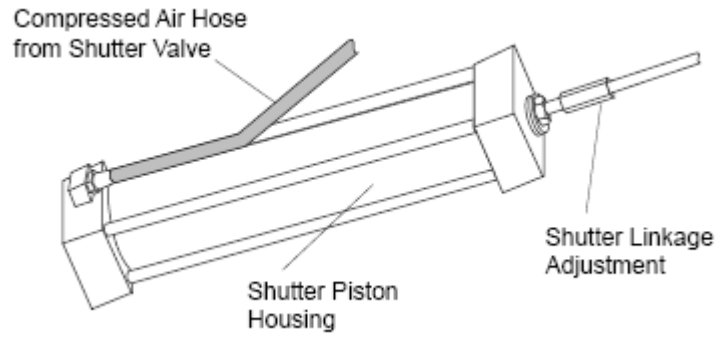

Figure 1
2. Release the locknut at the adjustment threads (see figure 1) of the piston ball joint extension rod.